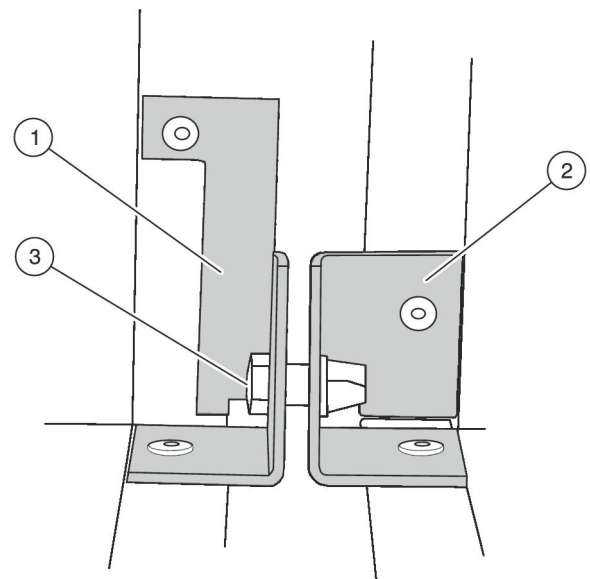

Fig. 23: Gusset plates
4. ▶ Connect the accessory module to the earth; use the hexagon head screw ( Fig. 23 /3 ) on the lower gusset plate on the operating side for this purpose.
5. ▶ Connect the gusset plates of the air handling unit and of the accessory module ( Fig. 23 /1+2 ) with hexagon head screws ( Fig. 23 /3 ).